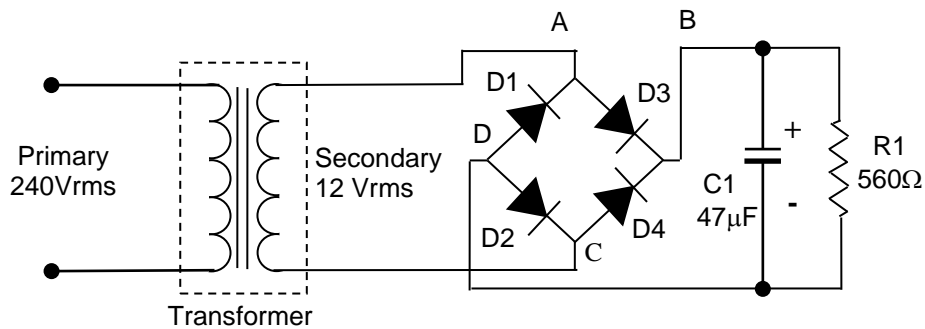

Figure 4 Full-wave rectifier circuit with capacitor
- e) Add a $47\ \mu\text{F}$ capacitor (C1) (**please take note of the polarity of the electrolytic capacitor**) to the rectifier circuit as shown in Figure 4. Repeat procedure c) above and sketch the voltage waveform across resistor R1 in Graph 9.